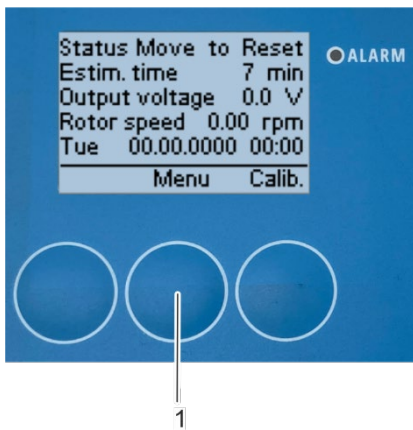
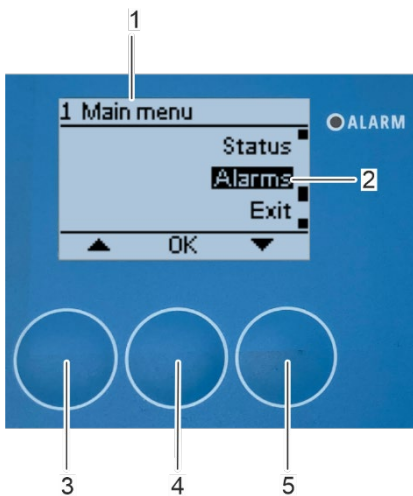

Fig. 181: Open main menu
Fig. 182: Open submenu "Alarms"
1. Press [Menu] (Fig. 181/1) to open the "1 Main menu" menu (Fig. 182/1).
⇒ The "1 Main menu" menu appears on the display (Fig. 182/1).
2. Select the "Alarms" submenu (Fig. 182/2) with the arrow keys [up] (Fig. 182/3) and [down] (Fig. 182/5).
3. Confirm the selection with [OK] (Fig. 182/4).